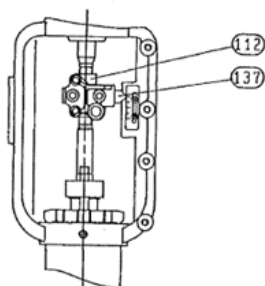
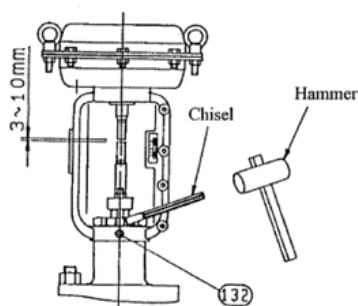

Fig.11
Fig.13
- Loosen the hexagon socket head bolt **131** that is clamping the yoke connector **112** as shown in Figs.11 and 12, and remove the yoke connector. The valve assembly now is as shown in Figs.13.
- Apply the end, having a rectangular form, of a chisel into the recession of the yoke nut as shown in Fig. 13, and hit the chisel with a hammer to loosen the yoke nut. Note, however, that the direction of the chisel application shown in Fig. 13 is the direction to tighten the yoke nut. Since the yoke nut has a right-hand thread, turn the yoke nut counterclockwise as viewed from the actuator side, to loosen it.
- Loosen the hexagon bolt **132** shown in Fig.13, and the actuator will be ready for separation from the valve assembly.